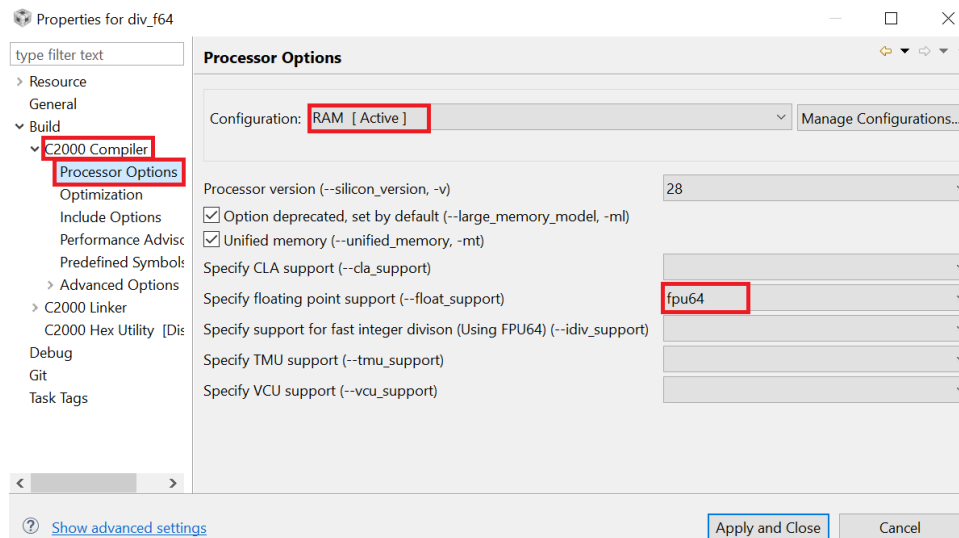

Figure 4.7: Turning on FPU64 support
3. For the double precision library set the **--float_support** option to **fpu64** in the **Runtime Model Options** as shown in Figure 4.7.